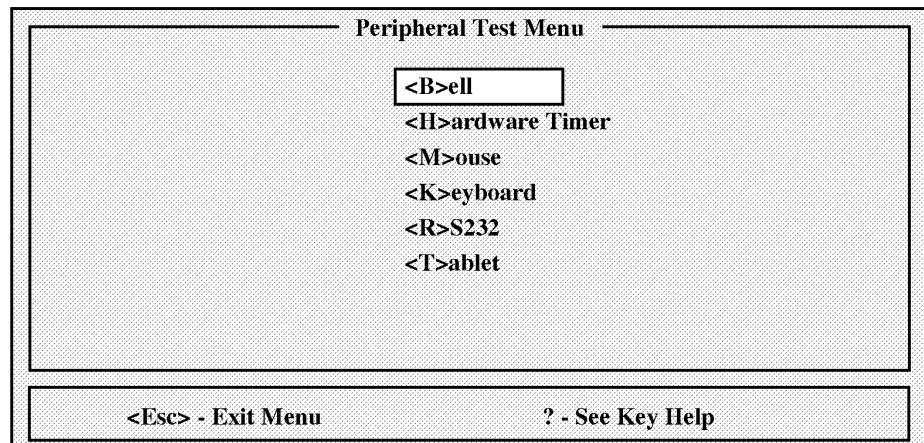

Figure 4-5: Peripheral Tests Menu
10. Press p, to select the Peripheral Test Menu (see Figure 4-5).